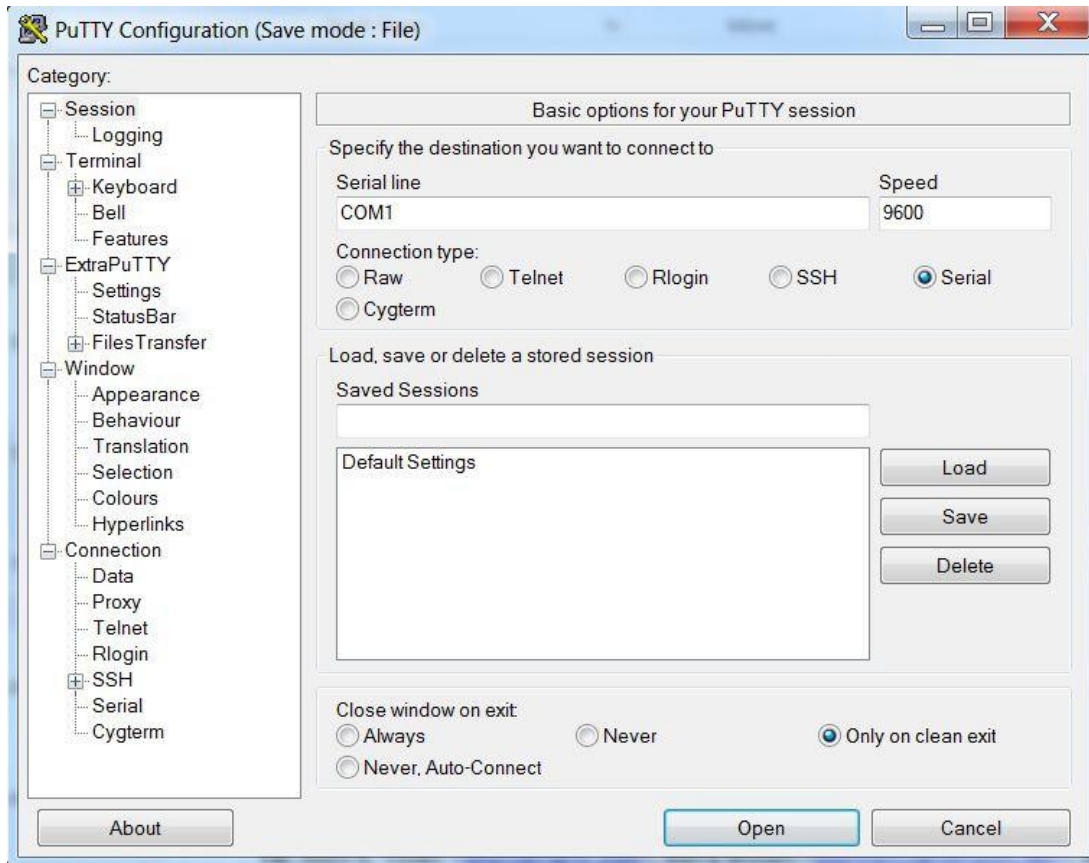

Fig. 6. ExtraPuTTY startup screen.
- (1) Start the ExtraPuTTY application. Fig. 6 shows the startup screen for the program. Click on the “Serial” button in the list of Connection Types at the top of the screen. If a configuration was not previously saved, select “Serial” at the bottom of the menu on the left side of the screen.